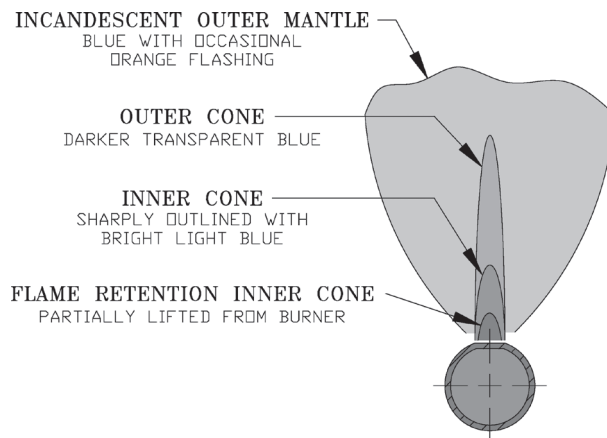

Figure 10- a
6. Check main burner and pilot flames. See Figures 10-a and 10-c.